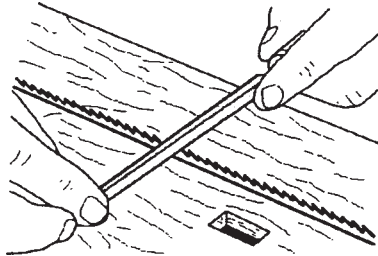

Fig. C-1
- Clamp the clean blade between two blocks of wood (or a wooden-jawed vise) so that the teeth protrude slightly, as shown in Fig. C-1.